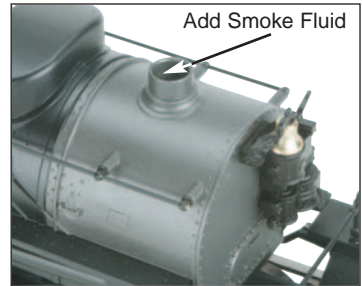

Figure 4 - Add Smoke Fluid
(See Fig. 4 on page 12)
■ When preparing to run this engine, add 15-20 drops of smoke fluid through the smokestack. (see figure 4) We recommend M.T.H. ProtoSmoke, South, IGB, or LVMS fluids (a small pipette of ProtoSmoke fluid is included). Do not over fill the unit or the fluid may leak out and coat the interior engine components.